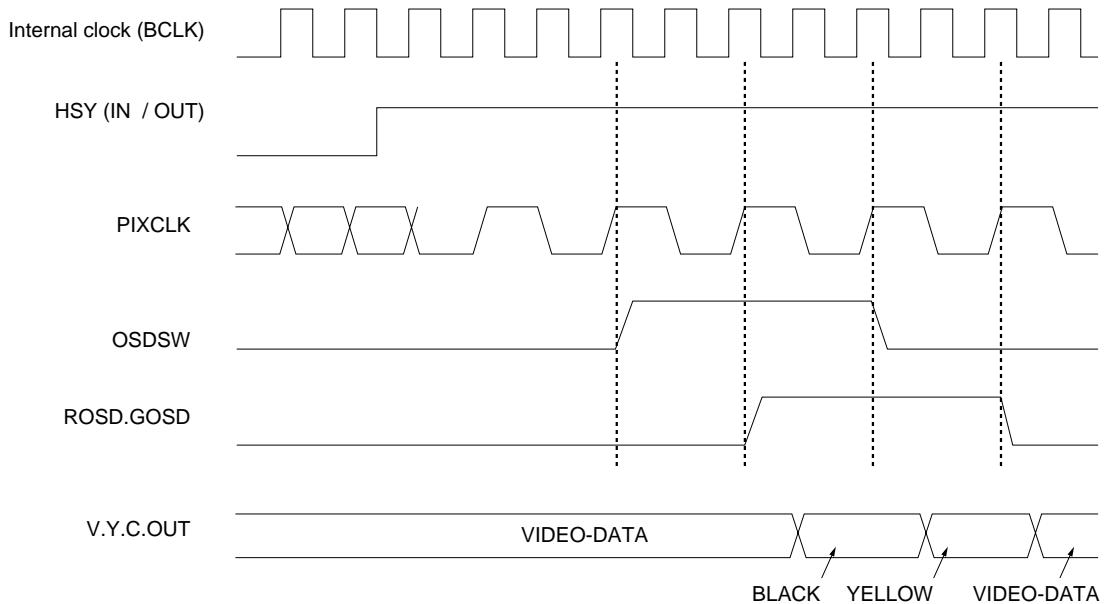

Fig. 15 Clock timing with the OSD function
* The frequency of the PIXCLK pin output is one-half that of the internal clock. This phase is determined at the rising edge of HSY, as shown in Fig.15. (In the Encoder Master mode, phase correction is implemented using the HSY output of the BU1425AK itself.) The OSD function is effective only during the time that video output is enabled. (See the TV signal timing diagram on page 27.)